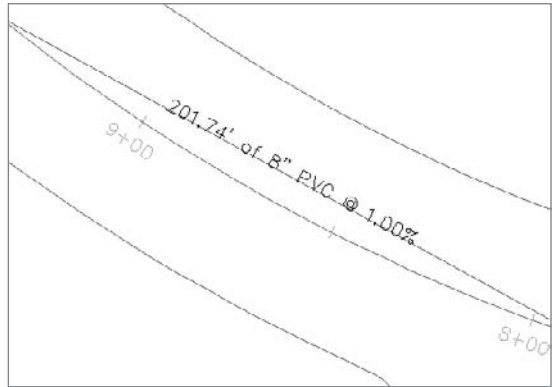

Figure 13.5
7. Note that labeled pipes have appeared between each structure as shown in Figure 13.5. Press ↵ to exit the command. The Network Layout Tools dialog will remain on the screen.